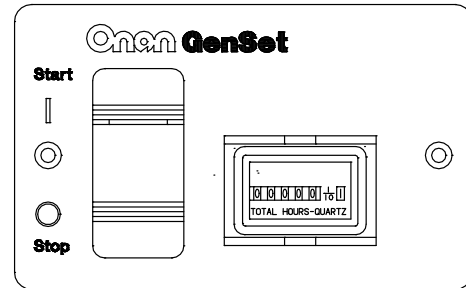

FIGURE 2-6. REMOTE SWITCH / HOUR METER
- Remote switch with status indicator light and hour meter (Figure 2-6).